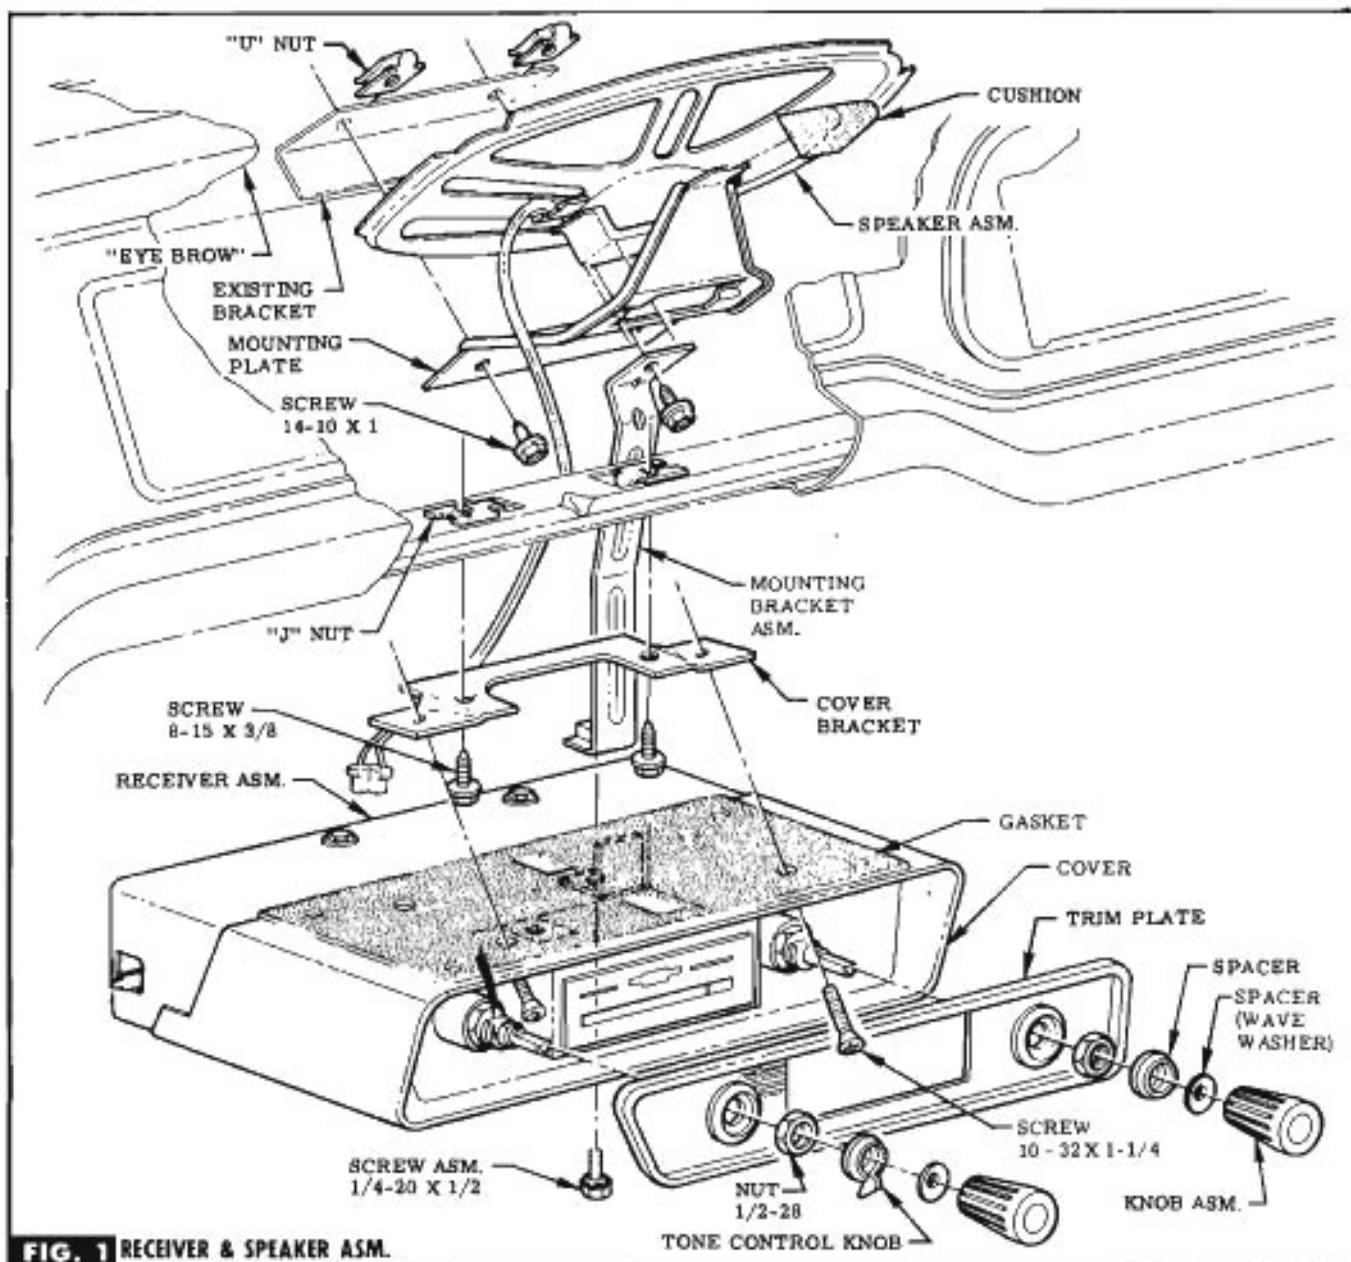

FIG. 1 RECEIVER & SPEAKER ASM.
STEP 1 PUSH CUSHION ONTO TANG OF MOUNTING PLATE. DROP MAGNET END OF SPEAKER THRU HOLE IN MOUNTING PLATE & POSITION MOUNTING PLATE CAREFULLY UNDER INSTRUMENT PANEL, NESTING CUSHIONED END OF PLATE INTO PANEL "EYE BROW". SEE FIG. 1.
PANEL & ATTACH FORWARD END OF MOUNTING PLATE & MOUNTING BRACKET TO EXISTING BRACKET ON DASH PANEL WITH "U" NUTS & SCREWS. SEE FIG. 1.
STEP 3 ATTACH COVER BRACKET TO INSTRUMENT PANEL REINFORCEMENT WITH "J" NUTS & SCREWS. SEE FIG. 1.
STEP 4 SLIDE RECEIVER INTO COVER & ATTACH TRIM PLATE WITH NUTS. SEE FIG. 1.
STEP 5 SLIP SPACERS ONTO R. H. CONTROL SHAFT, & TONE CONTROL KNOB & SPACER ONTO L. H. CONTROL SHAFT. PRESS A KNOB ONTO EACH SHAFT END. SEE FIG. 1.
STEP 6 POSITION GASKET ON COVER & ATTACH COVER TO COVER BRACKET WITH SCREWS. ATTACH MOUNTING BRACKET TO RECEIVER WITH SCREW. SEE FIG. 1.